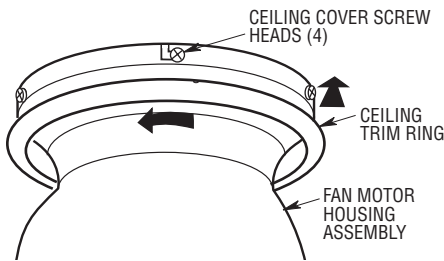

Figure 12
- 6. Position the ceiling trim ring over each of the protruding ceiling cover screw heads and rotate the ceiling trim ring clockwise to secure (Figure 12).